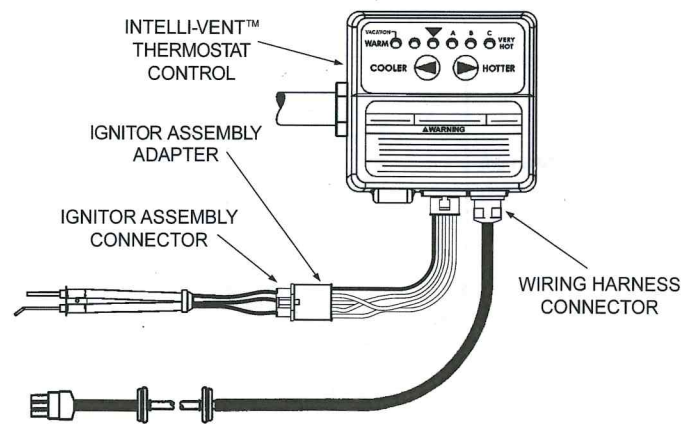

FIGURE 17.
- Locate the Ignitor Assembly and connector that comes out of the combustion chamber of the water heater and plug the male end of the connector into the female end of the "Ignitor Assembly Adapter", see Figure 17.
- "Wake up" the temperature indicators by depressing both the "COOLER" and "HOTTER" temperature adjustment buttons at the same time for one second (See Figure 17). One or two of the temperature indicators will light up. These indicators will only remain on for 30 seconds if no further button is depressed. After 30 seconds the control will go back into the "Sleep" mode, and both buttons will again have to be depressed to see the water temperature setting.